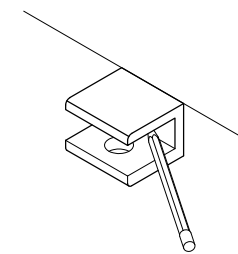

Fig. 2
2. Position your brackets 1-1/2" to 2" from each edge, as recommended. Mark their locations (Fig 2).